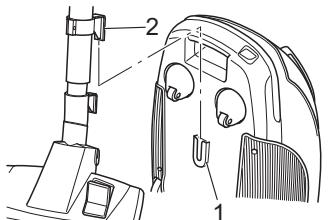

Fig. 17
- When **putting away** the vacuum cleaner, you can also use the stow-away hook mount (Fig. 17/1) on the underside of the cylinder vacuum cleaner. This is where you can hook the stow-away hook (Fig. 17/2) onto the telescopic tube (Fig. 17).